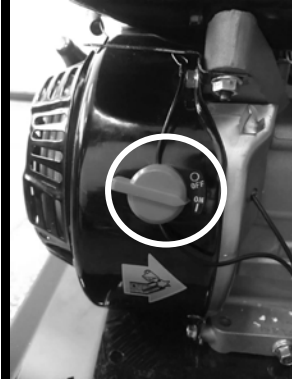

Fig.7A
1. Before starting engine, please turn the engine switch to the “ON” position. (Fig.7A)